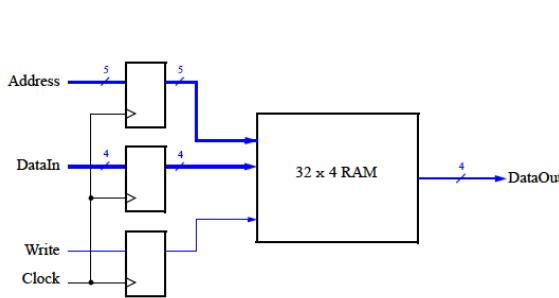

Figure 7.1: Schematic of the 32x4 embedded memory module.
A general sketch of a memory module is shown in Figure 7.1. It consists of a memory block, an address register, a data register and a control register (we are only looking at write operations in this example). You can see that the address, input data, and the write enable control signal are all stored in registers before being presented to the memory unit. The registers are used here to model the address and data registers on a typical processor and serve the function of keeping the input values stable for a full clock cycle while the inputs are being changed between clock cycles.
1. A: On the top left, the 5-bit input A is **Address** in Figure 7.1.
2. M3 [Write enable]: Just below A, M3 is WriteEn in Figure 7.1.